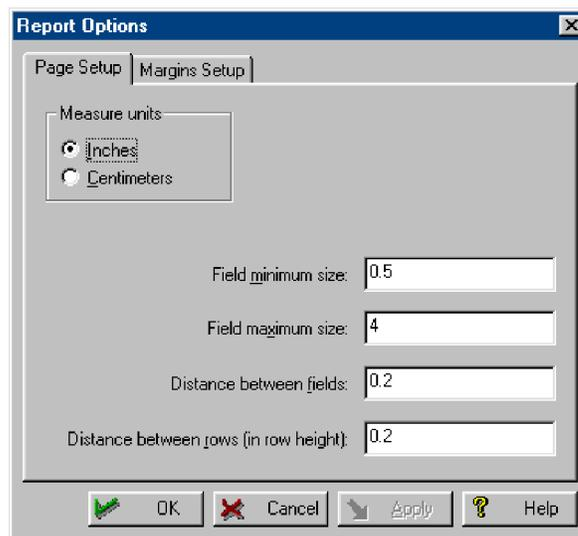

Figure 10.4 Report Options dialog box: Page Setup tab
- 2 From the **Page Setup** tab in the **Report Options** dialog box (Figure 10.4), enter or select new options as described in Figure 10.4.